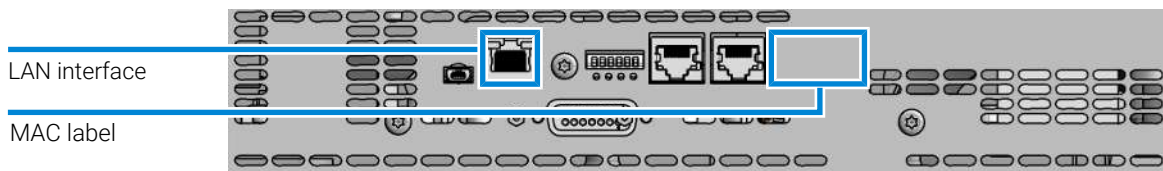

Figure 33: Location of LAN interfaces and MAC label
- 1 Note the MAC (Media Access Control) address for further reference. The MAC or hardware address of the LAN interfaces is a world wide unique identifier. No other network device will have the same hardware address. The MAC address can be found on a label at the rear of the module underneath the configuration switch (see Figure 33 on page 210).